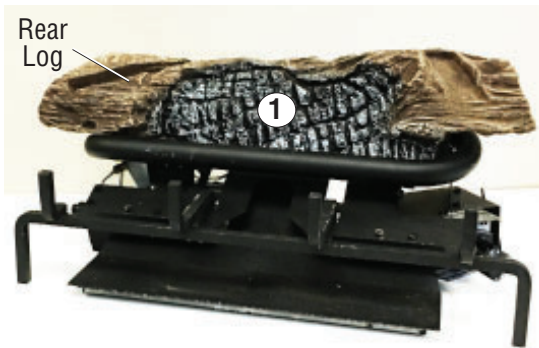

Figure 56 - Installing Log #1
1. Place the rear log (#1) on base assembly as shown in **Figure 56**. Log will fit over right end of burner and rest in middle of U-burner (see **Figure 56**).